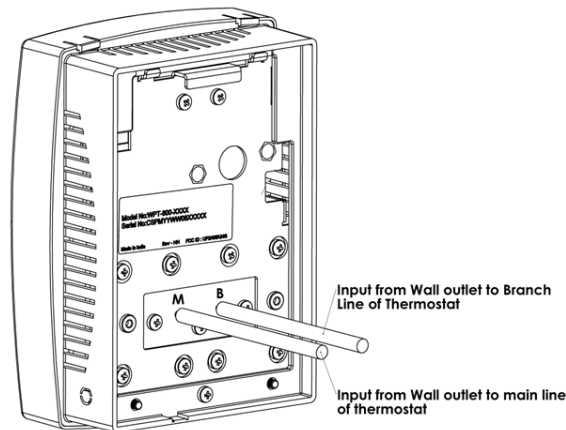

Figure 6. Connecting Main and Branch Tubes to M and B Ports
6. Connect the branch and main tubes to the air tubes marked B and M on the rear of the WPT-DB, as shown in Figure 6. Connect the pneumatic tube to the M port in case of single pipe WPT-DB.